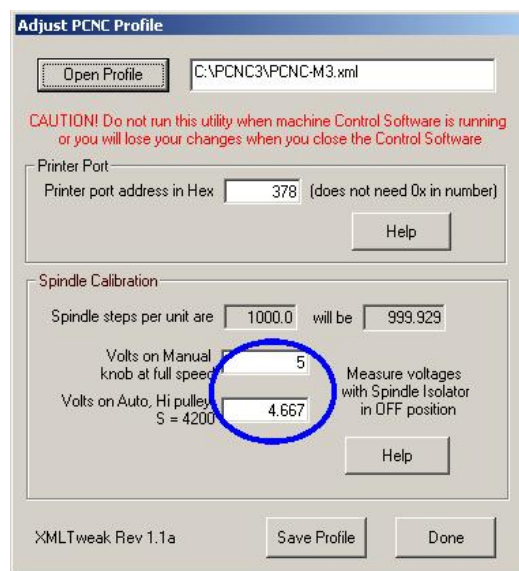

Figure 9.12 – The measured voltages
7. Next, under the “Speed Calibration” heading enter both of the measurements you recorded earlier. You will enter the Volts on MANUAL measurement in the *first* box. You will enter the Volts on AUTO measurement in the *second* box (figure 9.12).